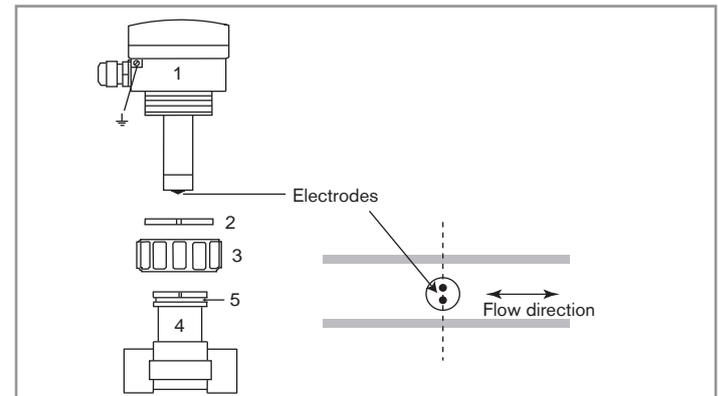

Fig. 11 : Installation into the pipe of the flowmeter with a G2" nut
- Insert the nut (see mark 3, Fig. 11) on the fitting.
- Insert the snap ring (mark 2, Fig. 11) into the groove (mark 5, Fig. 11).
- Position the cable glands parallel to the pipe and insert the device (mark 1, Fig. 11) into the fitting.
- Tighten the nut (mark 3, Fig. 11) by hand on the device.